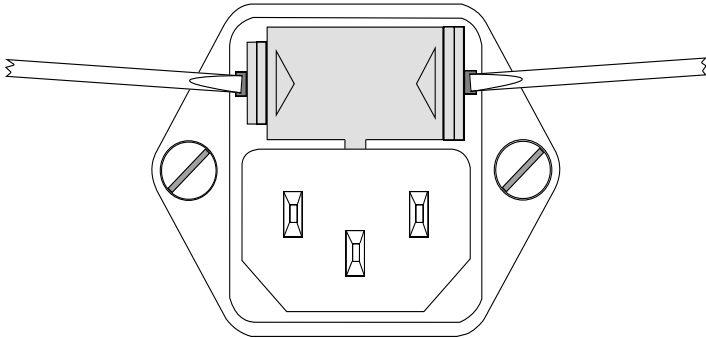

Figure 5 : How to open the fuse drawer
3. Insert the tip of the screwdriver into the small hole next to the fuse drawer as shown in Figure 5 : How to open the fuse drawer.